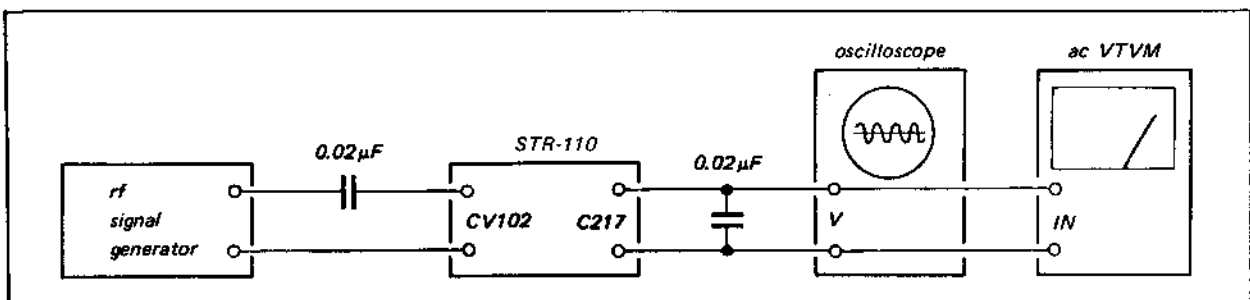

Fig. 3-5. Test setup for fm discriminator alignment by rf signal generator
1. With the equipment connected as shown in Fig. 3-5, set the signal-generator's controls as follows: